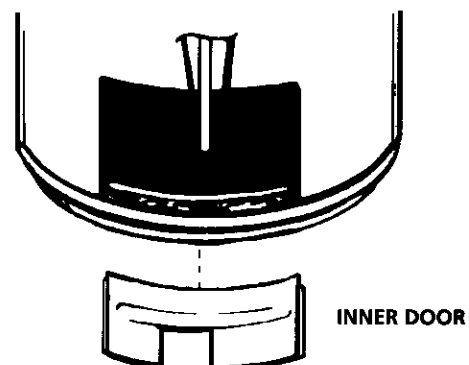

Figure 9
10. Replace (or close) inner door. (Figure 9, page 19)